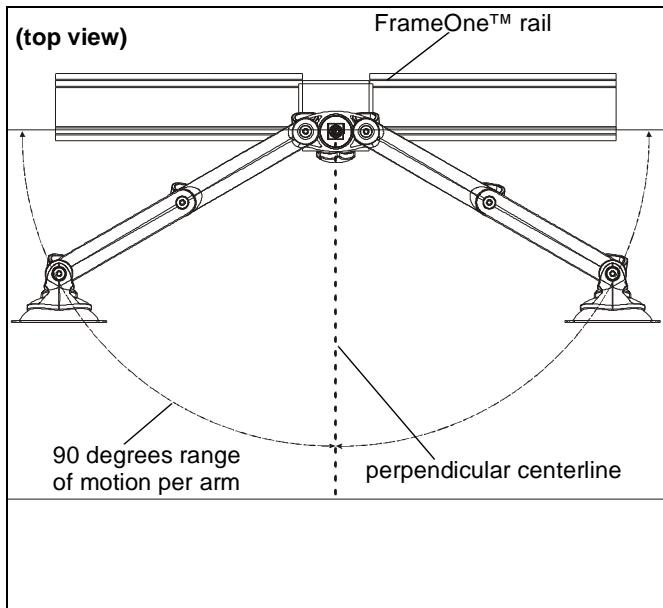

Figure 7
1. Adjust arm angles as desired within a 90 degree range from the edge of desk or wall and a perpendicular centerline of mount. (See Figure 7)